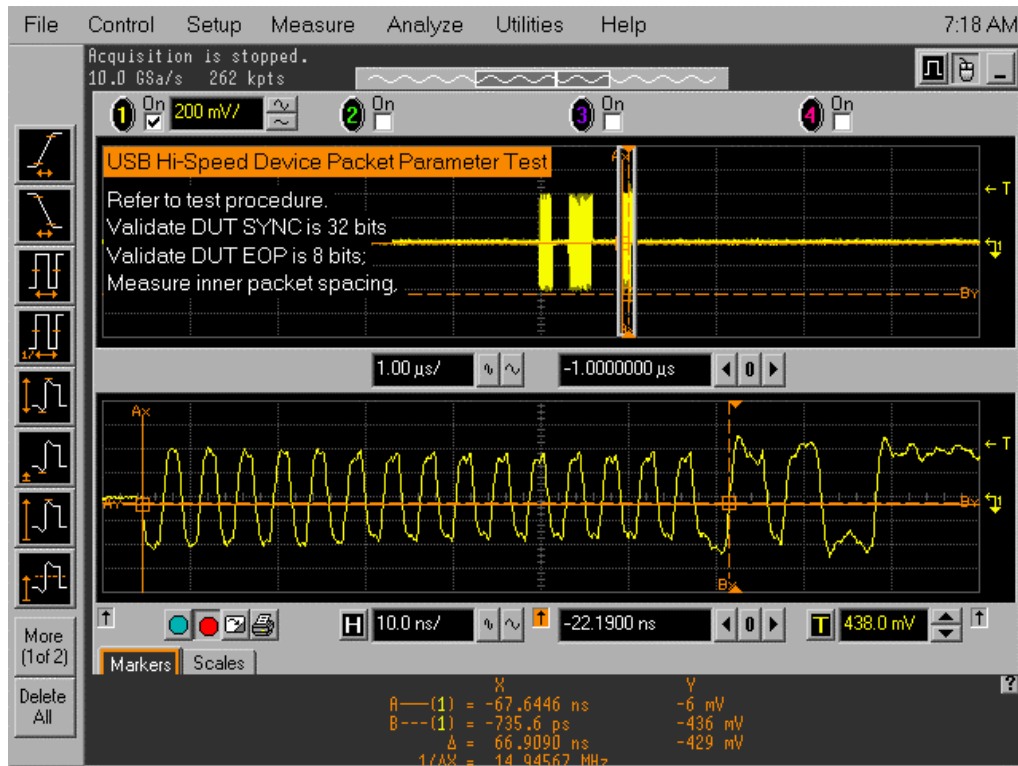

Figure 13. Packets Generated from Host and Device
8. The oscilloscope capture should appear as in Figure 13
9. Measure the sync field length (number of bits) of the third (from device) packet on the oscilloscope and verify that it is 32 bits per EL_21 (Figure 13)